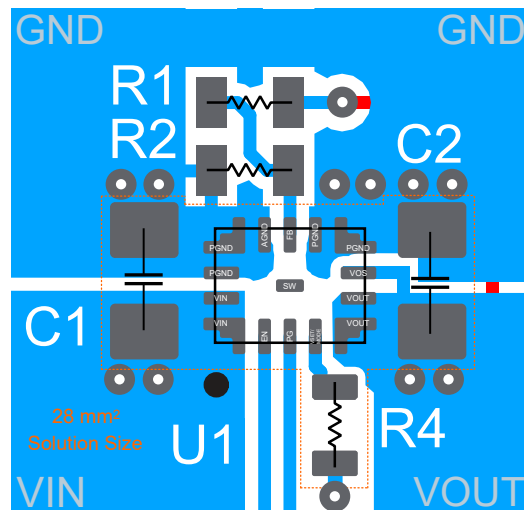
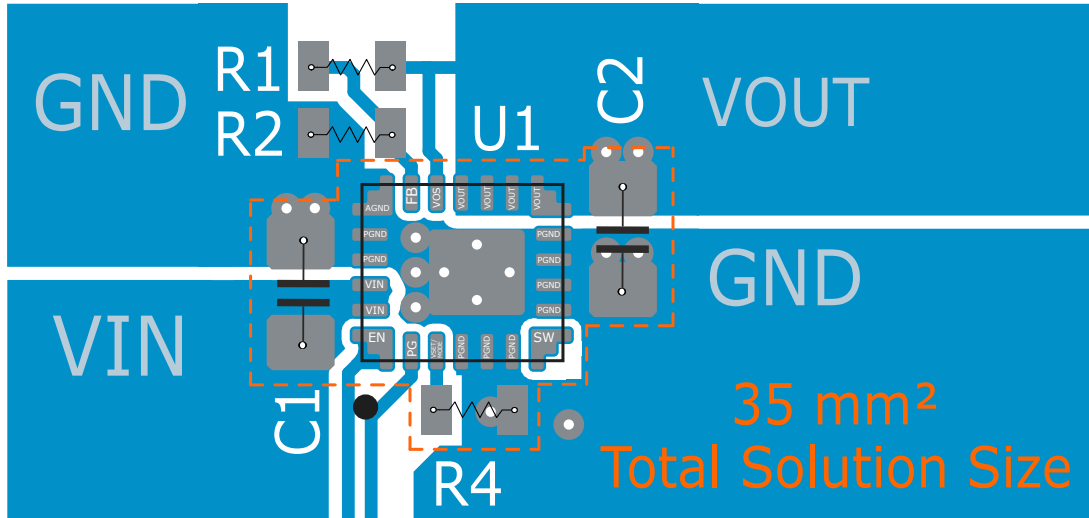

Figure 8-42. Layout Example RCF package
Figure 8-43. Layout Example RDJ and RDM package
- Refer to Figure 8-42 and Figure 8-43 for an example of component placement, routing, and thermal design.